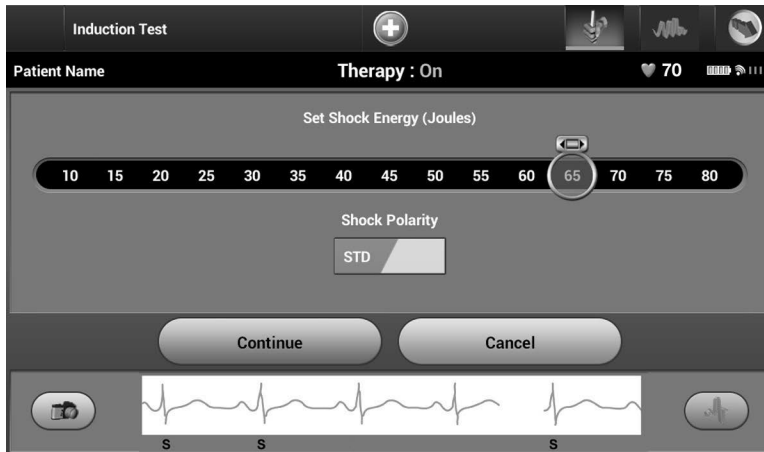

Figure 34: Setting the desired first shock energy for defibrillation testing
3. Select either standard (STD) or reverse (REV) polarity (Figure 34).